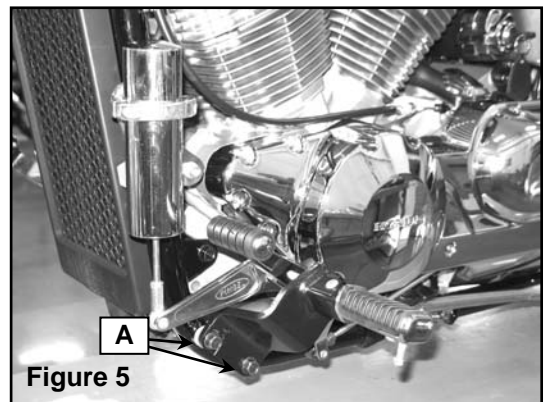

Figure 5
Attach the Pingel shift lever bracket to the stock shift lever using two 1/4-20 x 3/4" socket head cap screws and secure with the 1/4" x 20 locknuts. With the Pingel bracket attached, install the shift lever back onto the shift rod and foot peg. Install the foot peg back onto the motorcycle by inserting the supplied 10mm x 60mm HHCS with 10mm washer and thread locker applied through the stock foot peg bracket, the supplied .875 o.d. x .404 i.d. x .305 thick aluminum spacers and into the frame and tighten, see (A) figure 5.